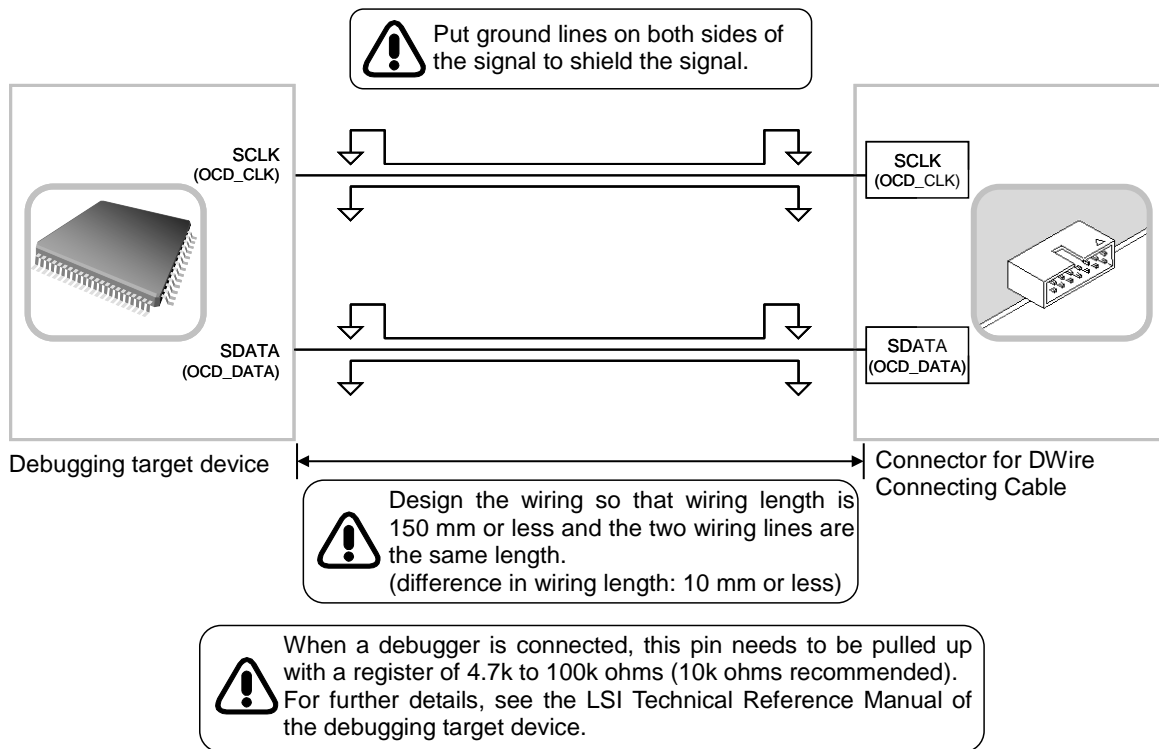
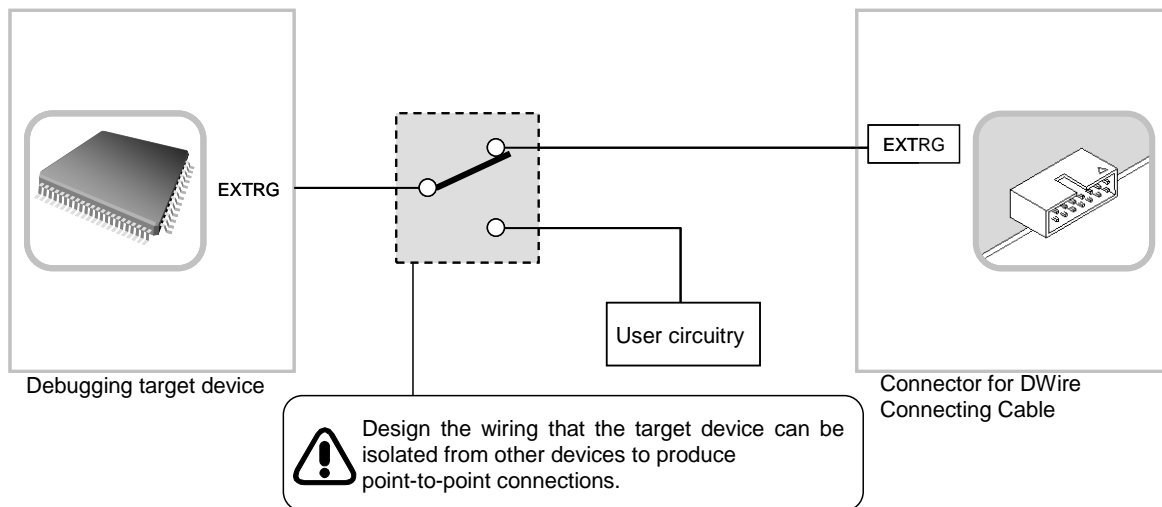

Figure 2.10.6 DWire Signal Wiring
Figure 2.10.7 External Trigger Input Signal Wiring
Connecting the Nu-EX series to the target board with the debugging target device through the DWire interface requires a preparation of either a connector for DWire Connecting Cable or test pins (bead type not supported) that meets the design criteria shown below on the target board (Refer to "2.10.1 Specification of Target Board Connector for DWire Target Connecting (p.50)"). Please observe the Notes on wiring to the connector for DWire Connecting Cable on the target board shown in Figure 2.10.6, Figure 2.10.7 and Figure 2.10.8.
- When the EXTRG pin is also used as the user pin, design the wiring so that the debugging target device can be isolated from other devices as shown in Figure 2.10.7.